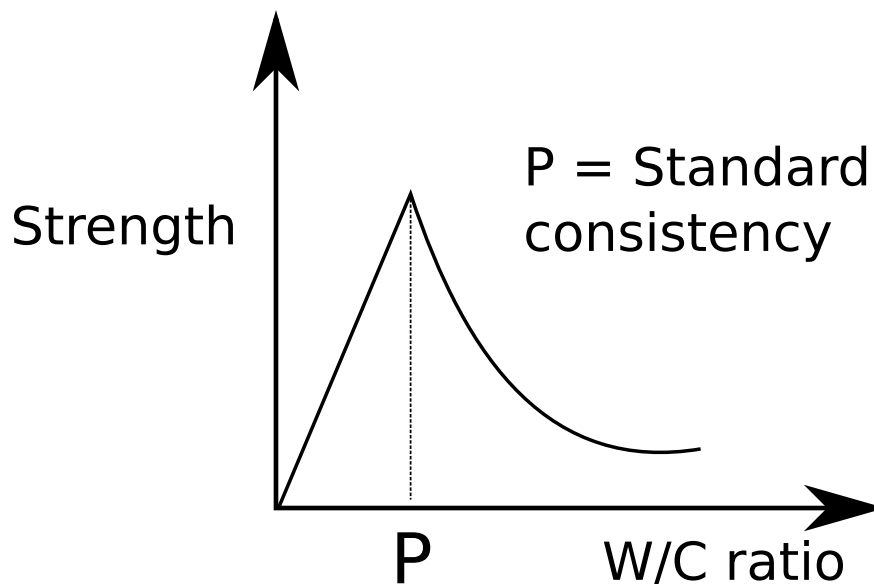

Figure 1: W/C ratio v/s strength
- c Graph shown in Figure 1 is appropriate answer.